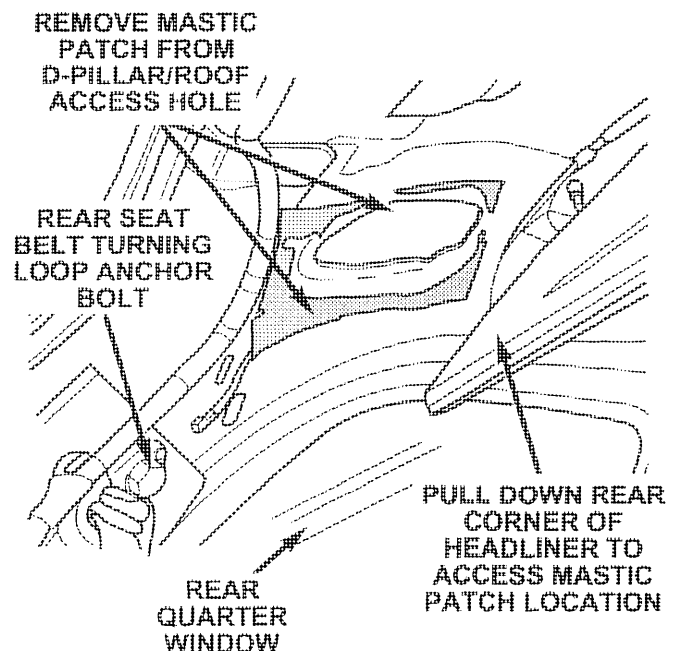

Figure 3 – Left Side Shown
14. Pull the rear corner of the headliner down and remove the mastic patch from the upper surface of the D-pillar (Figure 3) or from behind the D-pillar trim panel (if patch has already separated).
30. Pull the rear corner of the headliner down and remove the mastic patch from the upper surface of the D-pillar (Figure 3) or from behind the D-pillar trim panel (if patch has already separated).